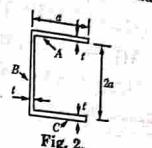

Fig. 2.
9. Determine the shear centre for the channel section as shown in Fig. 2.